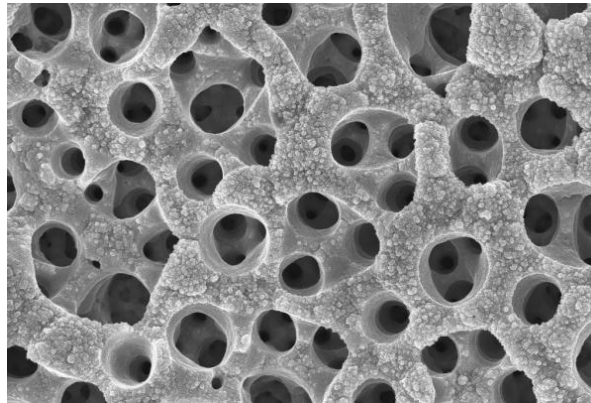

Figure 3: Image showing morphology of porous membrane structure
- (5). (a). Identify the best microscopy technique available to observe the image shown in Figure 3 and elaborate in detail how we can improve the resolution of the image by optimizing the following factors?